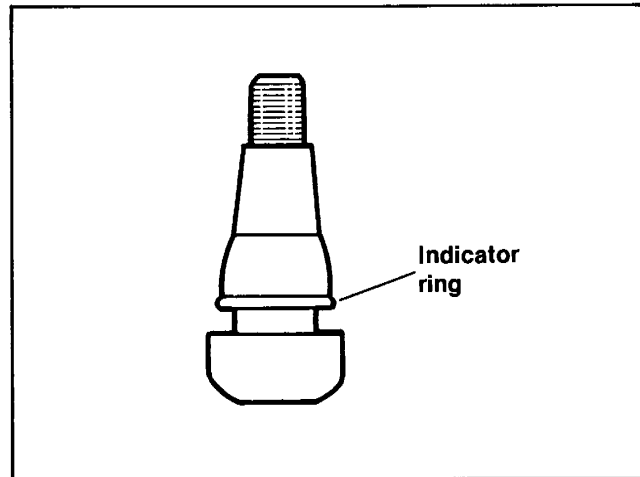

Figure 2-28. Snap-In Tubeless Tire Valves
- B. See Figure 2-28. Moisten the valve with water and insert valve stem through rim hole. Thread plug tool on valve stem and pull valve through rim until all of the indicator ring is visible.